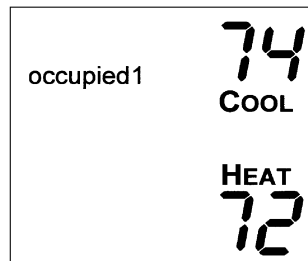

Fig. 8 — Setting Occupied 1 Set Points
1. Enter programming mode by pressing the and holding the Mode and UP ARROW buttons. The Occupied 1 annunciator will appear on the thermostat display. Use the UP ARROW and DOWN ARROW buttons to set the maximum number of Occupied periods for each day. The thermostat can be set to 1, 2, or 3. After the number of Occupied periods has been selected, press the Mode button. See Fig. 8.
2. The cooling set point for Occupied 1 will be displayed. Use the UP ARROW and DOWN ARROW buttons to raise or lower the cooling set point until the desired temperature is shown. The range of acceptable values is 35 to 99 F (1 to 37 C). Press the Mode button to continue. See Fig. 8.
3. The heating set point for Occupied 1 will be displayed. Use the UP ARROW and DOWN ARROW buttons to raise or lower the heating set point until the desired temperature is shown. The range of acceptable values is 35 to 99 F (1 to 37 C). Press the Mode button to continue. See Fig. 8.